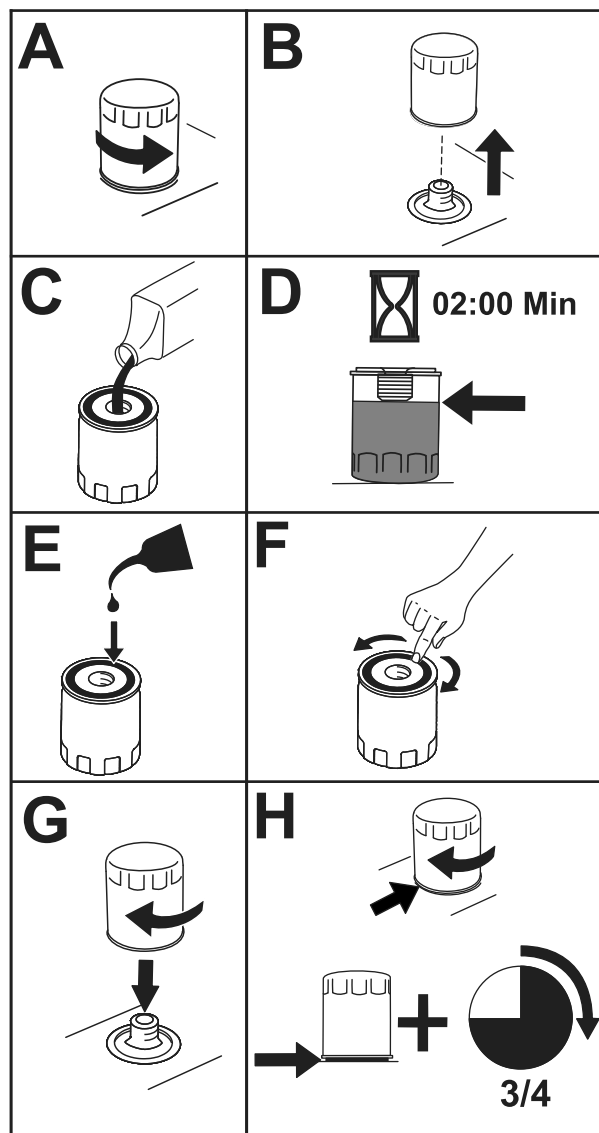

Figure 48
2. Change the engine-oil filter (Figure 48).